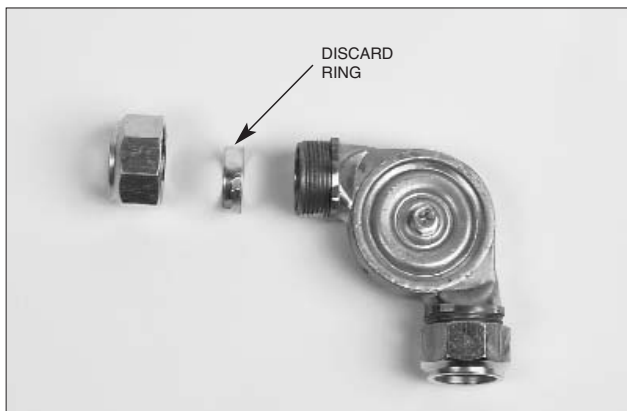

FIGURE 56
1. Unscrew the nut from pulley elbow, pulley tee, or EMT conduit connector and remove the compression ring. Discard ring. See Figure 56.